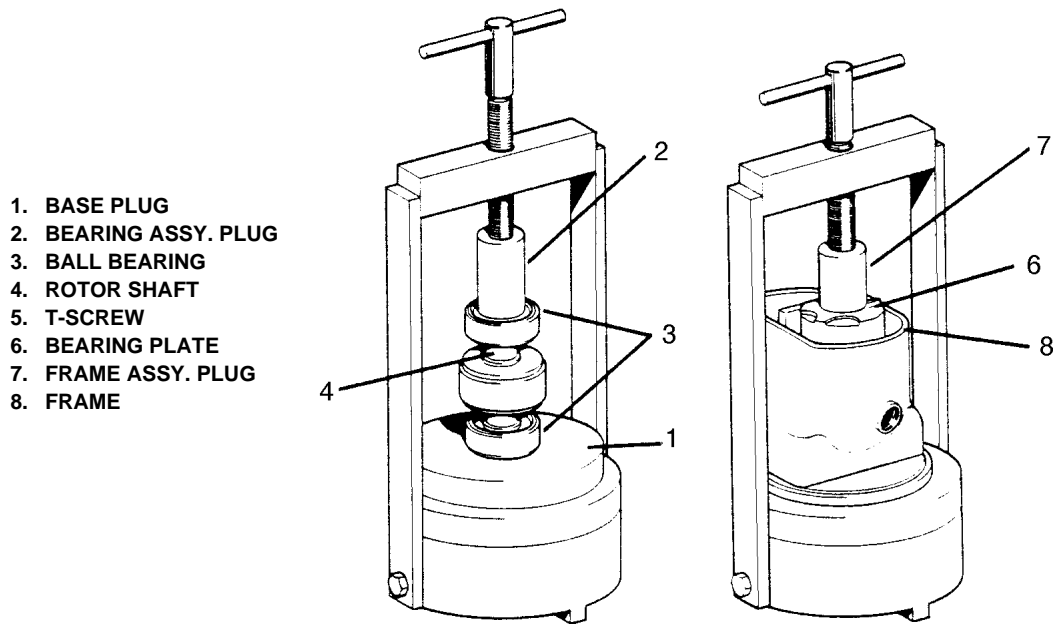

Figure 8-11. Installation of Bearings and Bearing Plate
i. Using rotor and frame assembling plug (T-102), turn the T-screw down until the plate bottoms in the frame, (Refer to Figure 8-11.) Install bearing plate clamp on bearing plate and install screw and lockwasher. Torque to 20-24 in. Lbs.